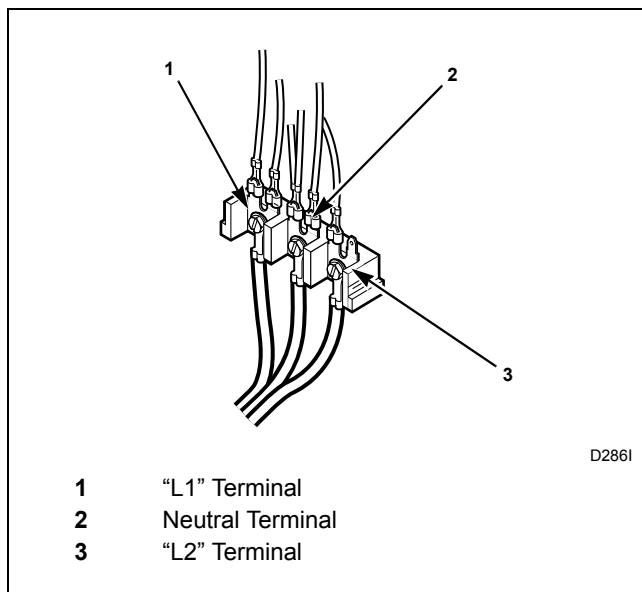

Figure 15
- Use the three screws from the accessories bag to attach the power cord wires to the terminal block. Refer to *Figure 15*.